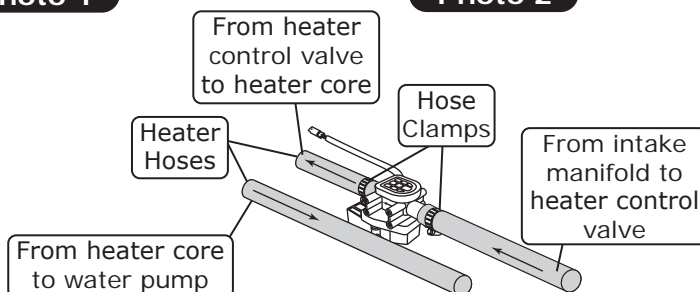

Figure 1
1. Install the heater control valve support bracket onto the heater control valve using (4) #8 x 1/2" screws (See Photos 1 and 2, below)
5. Route the other end of the heater control valve heater hose to the intake coolant port (See Figure 1, below). Secure it with a hose clamp.
6. Route a length of heater hose to the lower heater hardline on the evaporator unit. Route the other end to the water pump coolant port (See Figure 1, below). Secure both ends with hose clamps.